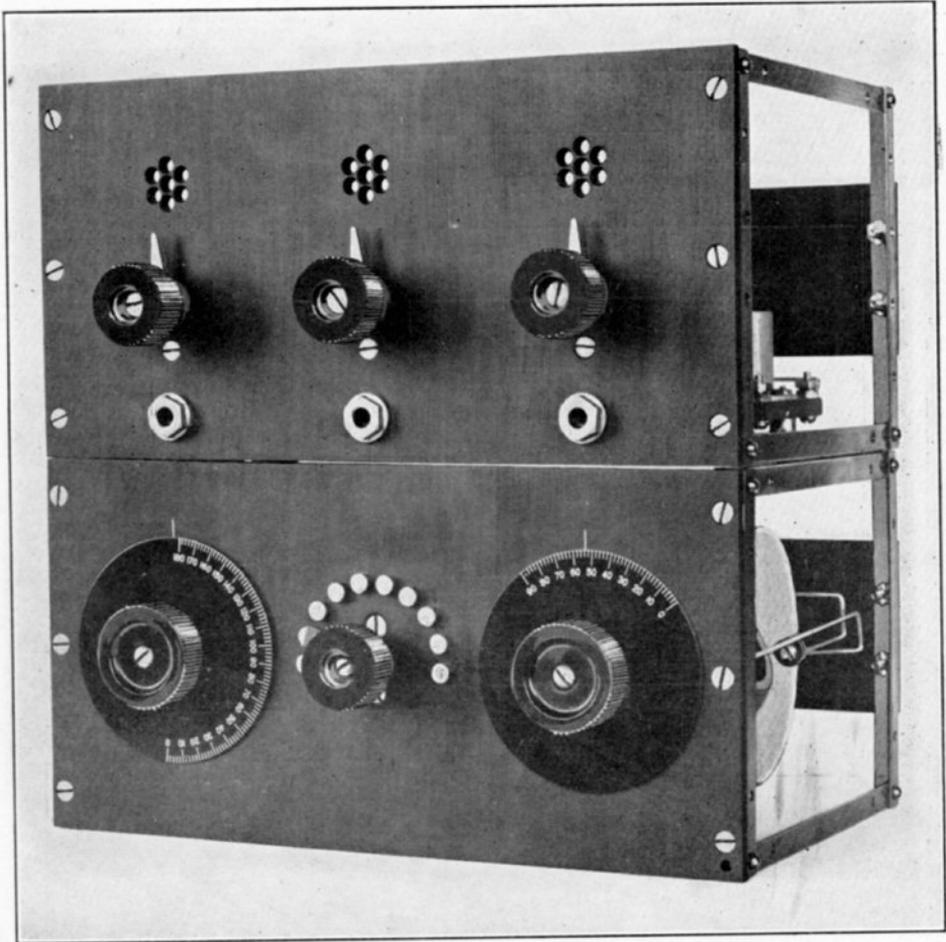

Fig. 1. The 150 to 2,600 meter regenerative set with a detector and two-step amplifier. The latter will be described in the August issue.
**A**NOTHER new feature is introduced in this article, namely, the panel supporting methods. At the G. A. Company we have actually built dozens of boxes and tried out many and varied schemes for supporting instrument panels, for the purpose of finding an inexpensive and at the same time good-looking method. The angle brass supports, shown in Fig. 1, is the outcome. These are easily made, furnish excellent bracing for the panel, permit instruments to be attached on top or at the sides, and carry the rear connection panel conveniently. All around, it is the best system for the man who does not want to put four or five dollars into a cabinet for each instrument.